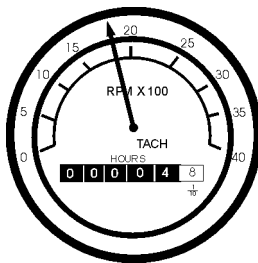

Figure 47. Engine Tachometer
15. The tachometer (Figure 47) will indicate the speed of the engine when the generator is operating. Under normal operating conditions this speed should be approximately 1800 RPM's.